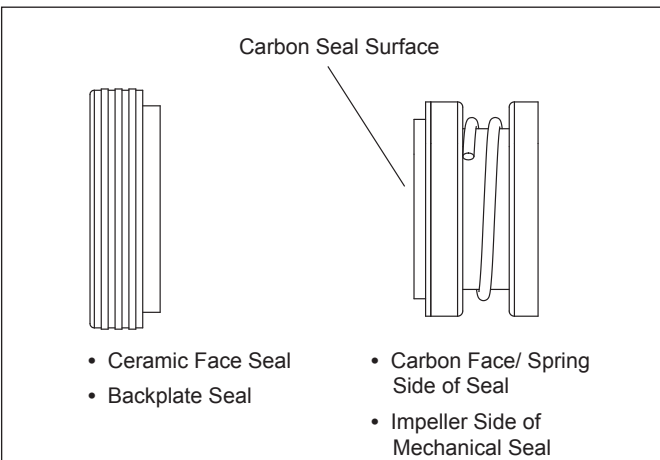

Figure 15. Mechanical Seal
1. Press the new carbon face seal half (see Figure 15) on the motor shaft using a twisting motion. Make sure the carbon surface is facing toward the ceramic ring in the backplate.
- Remove the carbon face seal half from the motor shaft (See Figure 15). This is a spring-loaded seal. Grasp the portion of the seal closest to the impeller body and pull the seal off, using a twisting motion.